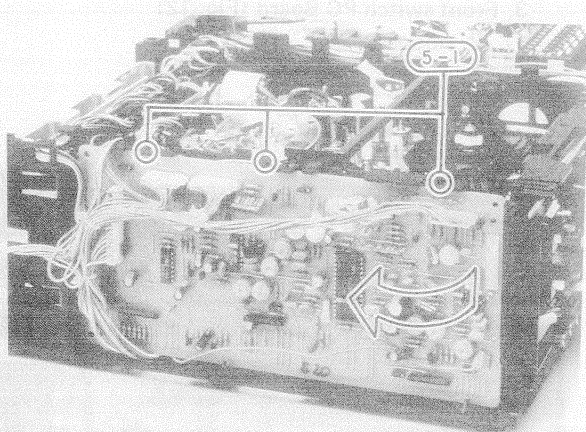

Fig. 14
5. Servo PC Board (Fig. 14)
- 1) Remove the servo PC Board (Fig. 14)